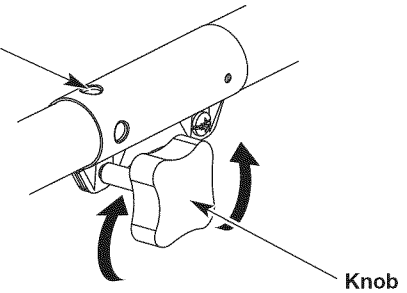
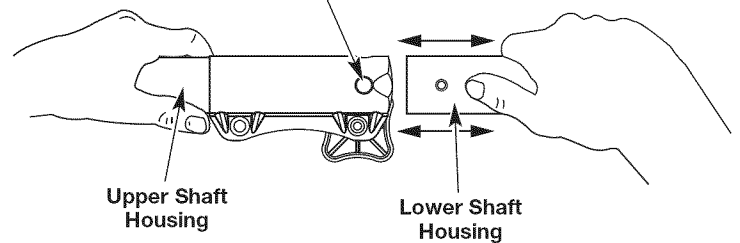

Fig. 6
Fig. 8
1. Turn the knob counterclockwise to loosen (Fig. 6).
2. While firmly holding the trimmer attachment or other attachment, push it straight into the Convertible™ coupler until the release button snaps firmly into the primary hole (Fig. 8).
3. Turn the knob clockwise to tighten (Fig. 6).
CAUTION: Before operating this unit, be sure that the release button is fully snapped into the primary hole (Fig. 8), and that the knob (Fig. 6) is securely tightened.
For decorative edging with the line head trimmer attachment, lock the release button of the attachment into the 90° hole (Fig. 6).
3. While firmly holding the upper shaft housing, pull the trimmer attachment or other attachment straight out of the Convertible™ coupler (Fig. 8).